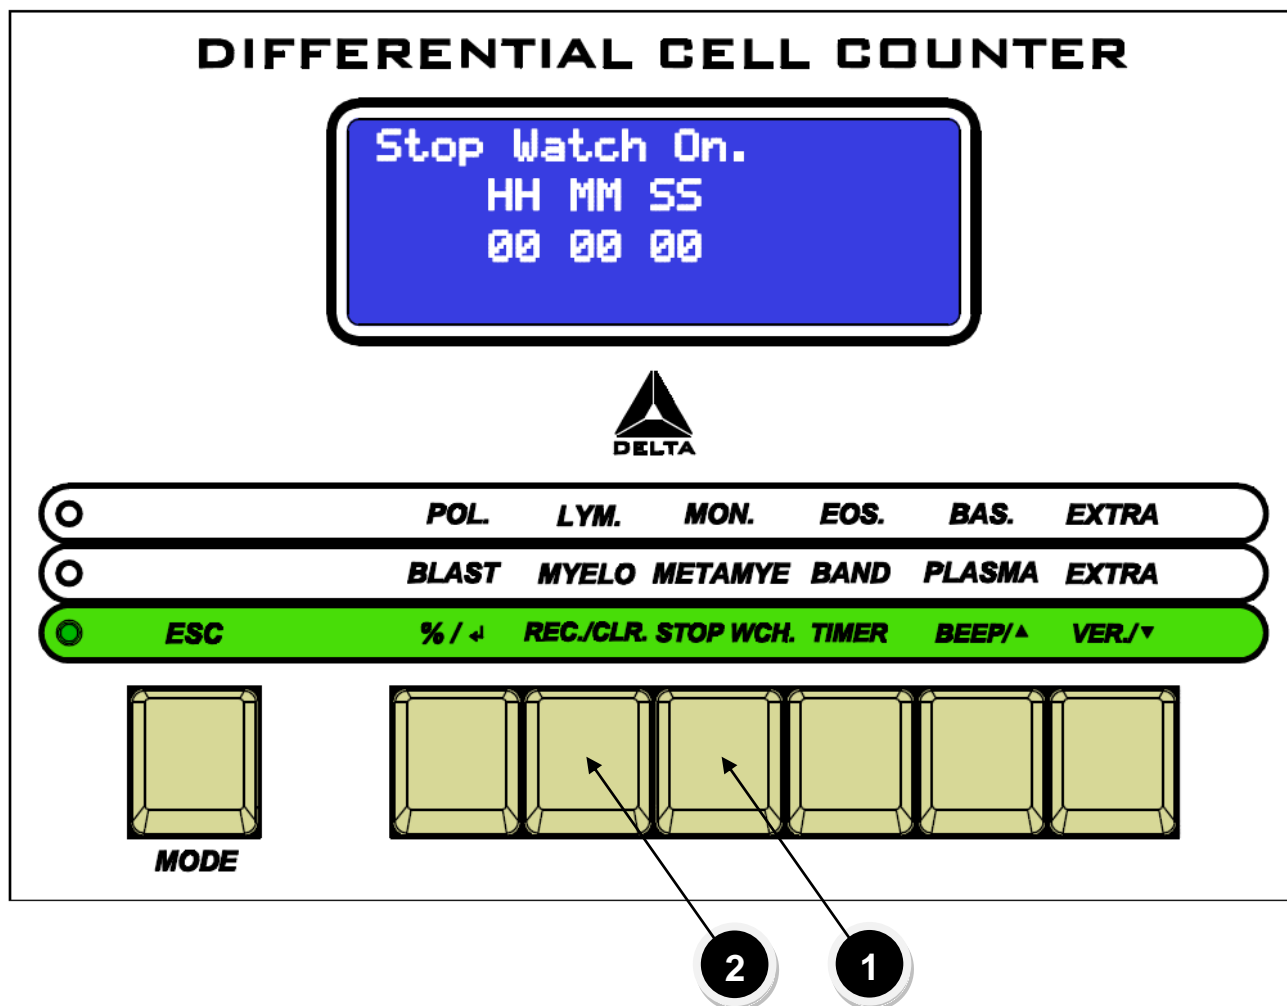

Fig. 6 Stop watch
- 4.13 To start and stop the “**Stop watch**” press stop watch key (Fig.6/❶).
Reset stop watch by “**Clear**” key (Fig.6/❷).